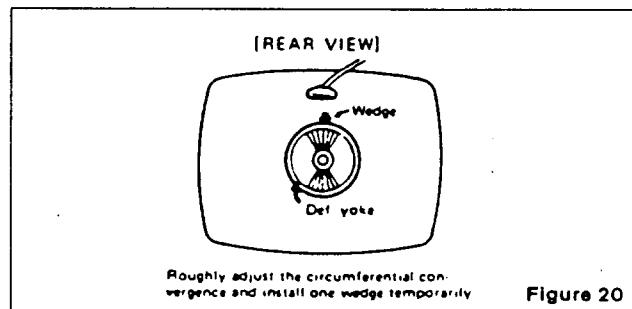

Figure 20
3. Adjust convergence around the edges of the picture tube by tilting the yoke up-down and left-right, and temporarily install one wedge at the top of the yoke or in a more optimum position (Figures 20, 21, 22).